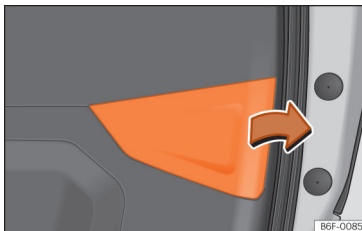

Fig. 61 Rear lid open: remove the cover.
- Remove the rear lid cover in the direction indicated »» **Fig. 61**.